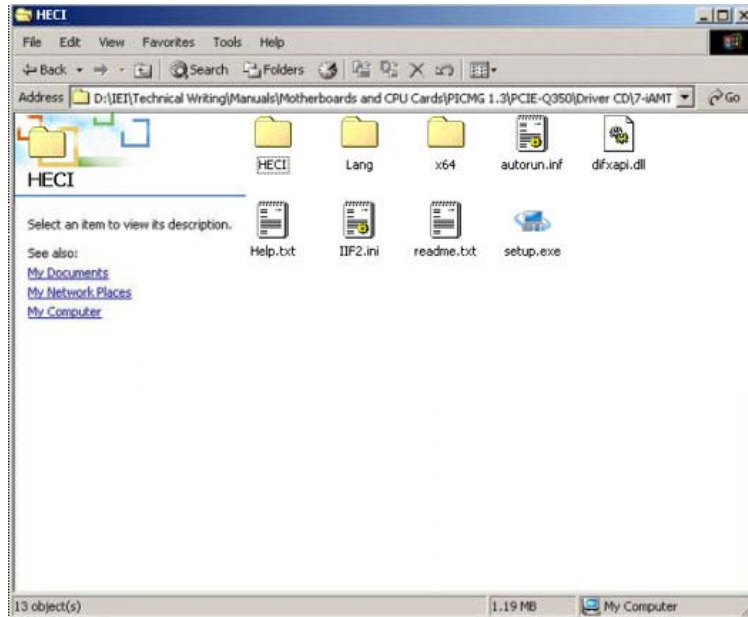

Figure 7-63: HECI Driver Installation Icon
Step 32: Click on the HECI directory icon. The window in **Figure 7-63** appears.
Step 33: Double click the setup icon in **Figure 7-63**.